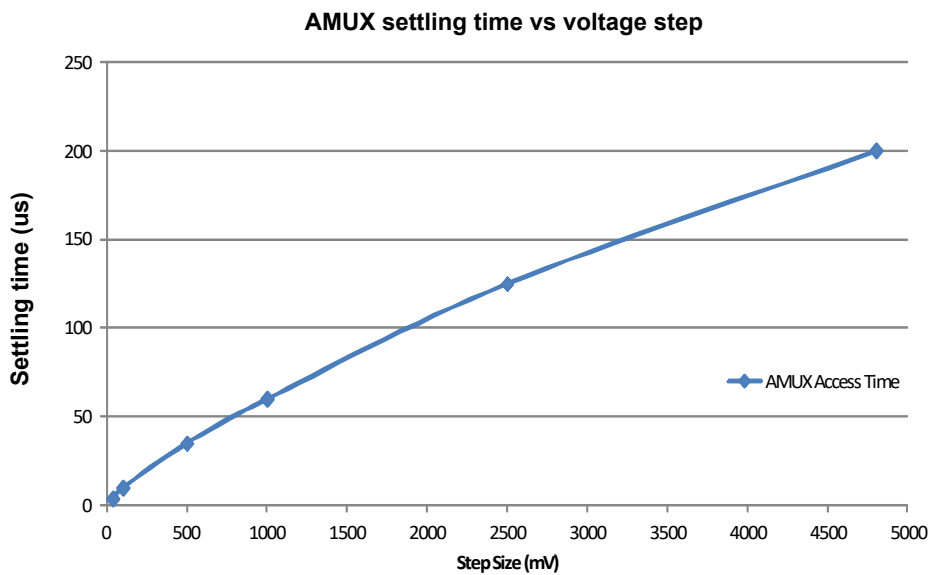

Figure 10. AMUX access time waveform
26. AMUX settling time to be within the 10 mV offset specification.  $AMUX_{VALID}$  is dependent of the voltage step applied on the input SGx/SPx pin or the difference between the first and second channel selected as the multiplexed analog output. See Figure 10 for a typical AMUX access time VS voltage step waveform.